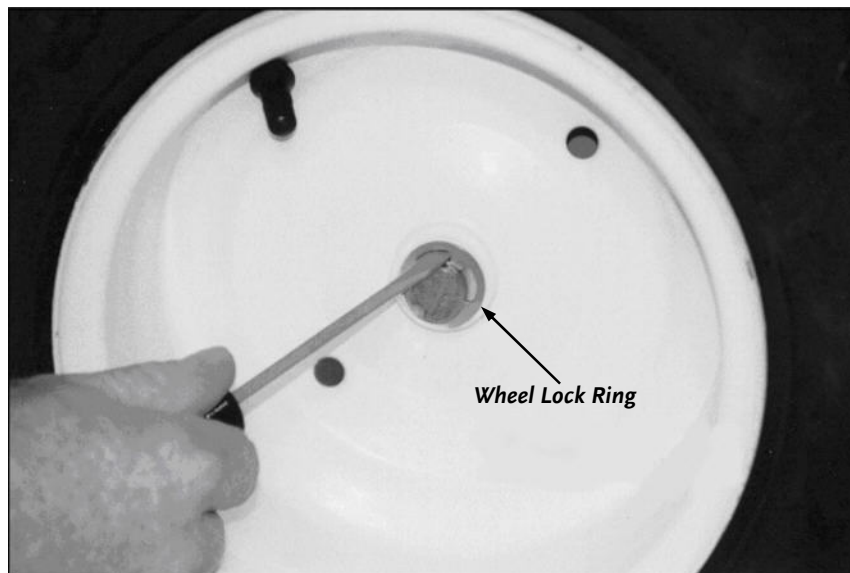

Figure 17
2. Rotate the Tire so the Key Slot is upward, then pop off the Wheel Lock Ring with a Screwdriver (**Figure 17**) and save it. Remove the Washer and slide the Wheel off.